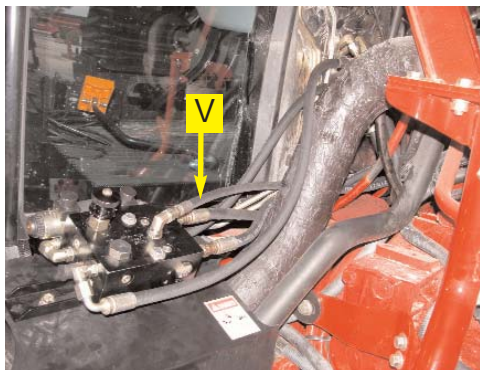

Figure 9a. Installed load sense hose at the automated steering block.
Connect the load sense hose (V) from the LS port on the automated steering block to the PILOT port (fitting K) on the load sense valve (I). (Figure 9a. and 9b.)